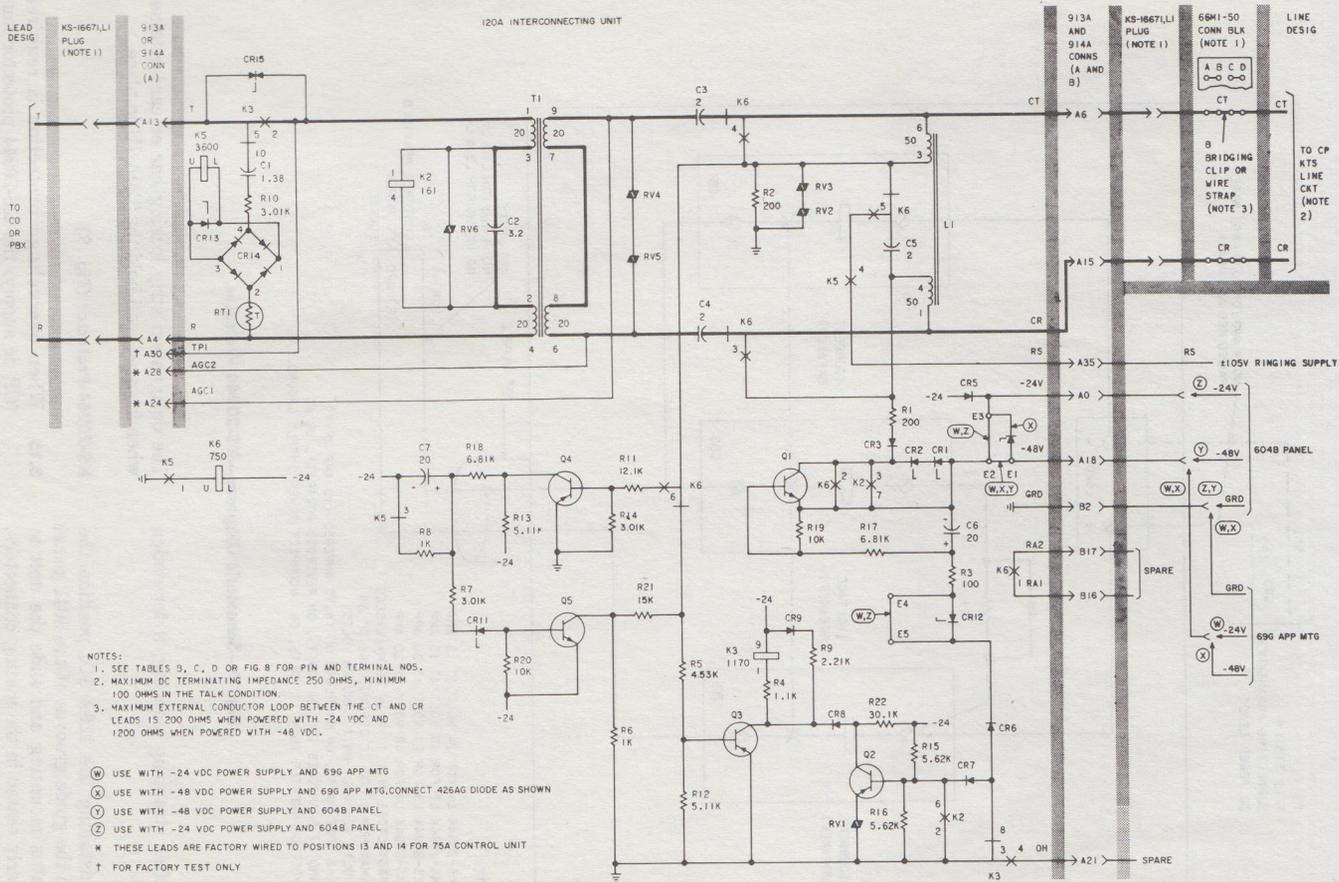

Fig. 8—Schematic Diagram—120A Interconnecting Unit
3.13 Install voltage option straps for options W, X, Y and Z (Fig. 8) as follows:
continuity after strapping (see Fig. 8 for option connections).
4. OPERATION (Fig. 8)
4.07 When used with a 69G apparatus mounting, the supply voltage is connected to the 66B4-25 connecting block. If supply voltage is -24 volts, option W must be used on the 120A IU (Fig. 8). If supply voltage is -48 volts, option X must be used and a 426AG diode added to the 120A IU.
4.08 When used with a 604B panel, the -24 volt or -48 volt supply voltage is connected to the proper terminal on the rear of the panel and the panel option straps properly positioned for the voltage in use. In addition, option Y or Z must be added to the 120A IU (Fig. 8).
5. MAINTENANCE (Fig. 8)